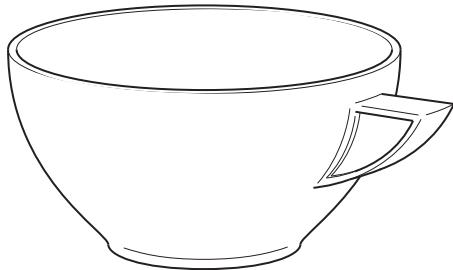

Fig. 5
- 4 Fig. 5 shows a mug designed for a young child. The mug is to be produced from injection moulded plastic.
- (b) When the prototype is tested, the mug shown in Fig. 5 is found to be unsatisfactory.